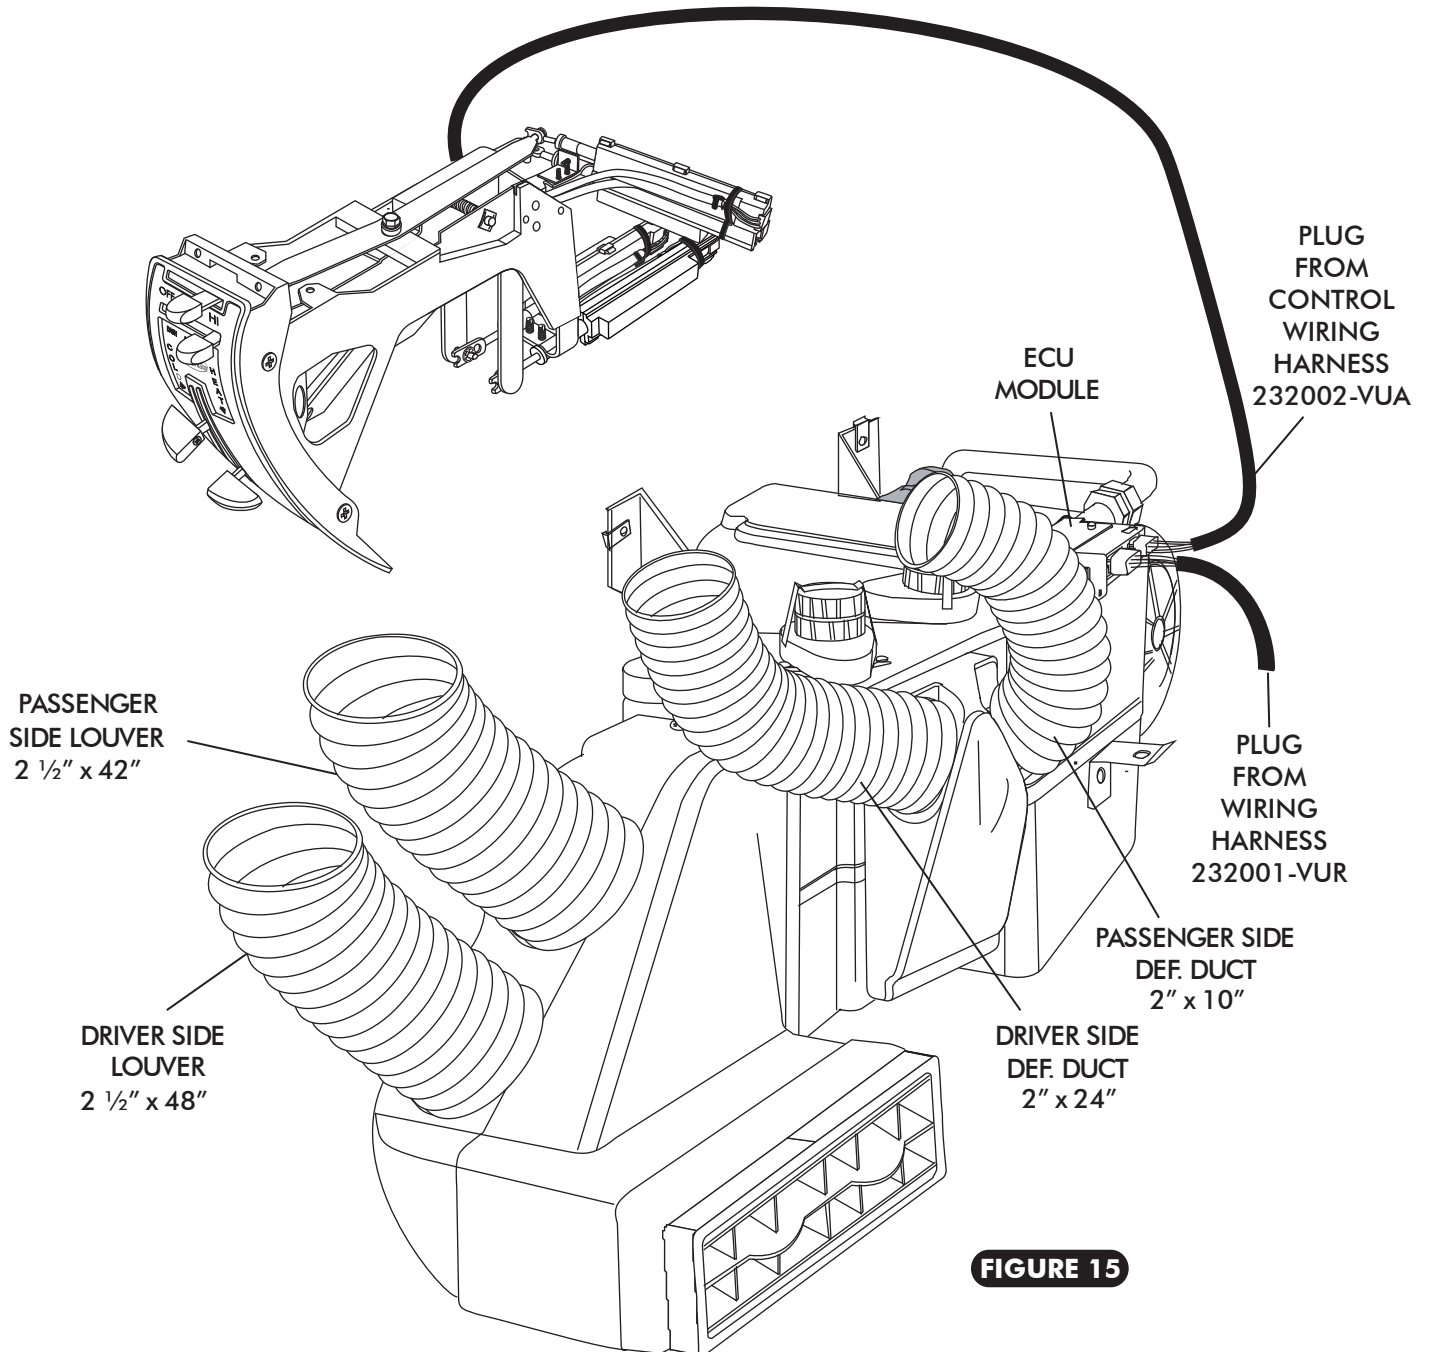

FIGURE 15
- ☐ INSTALL DUCT HOSE AS SHOWN IN FIGURE 15, BELOW.
- ☐ PLUG THE WIRING HARNESS INTO THE ECU MODULE ON SUB CASE AS SHOWN. SEE FIGURE 15, BELOW (WIRE ACCORDING TO WIRING DIAGRAM ON PAGE 19).